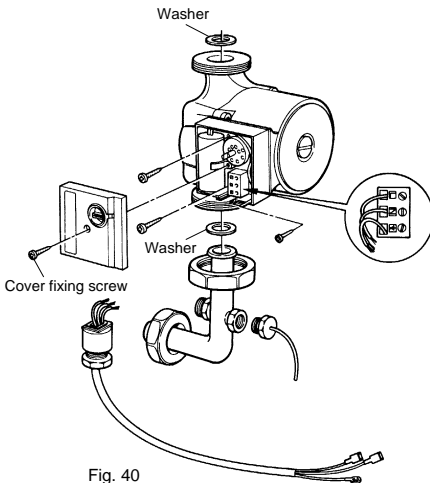

Fig. 40
- Remove electrical cover on pump, one screw (fig. 40). (Rotate pump to remove cover).
- Re-assemble in reverse order (fig. 40).